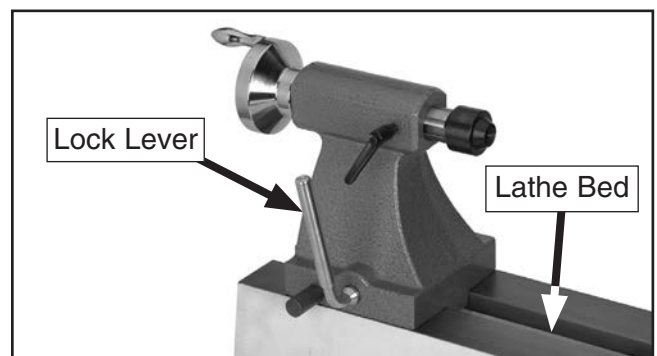

Figure 21. Typical tailstock lock lever to adjust tailstock position.
1. Disengage lock lever and move tailstock to desired position (see **Figure 21**).